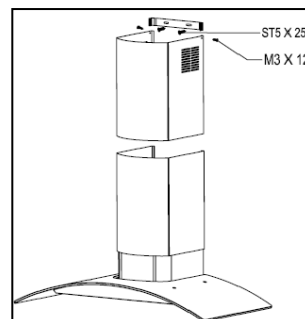

Fig. 8
- Fix the inner duct to mounting bracket using 2 (two) M3 x 12 screws provided (Fig. 8).